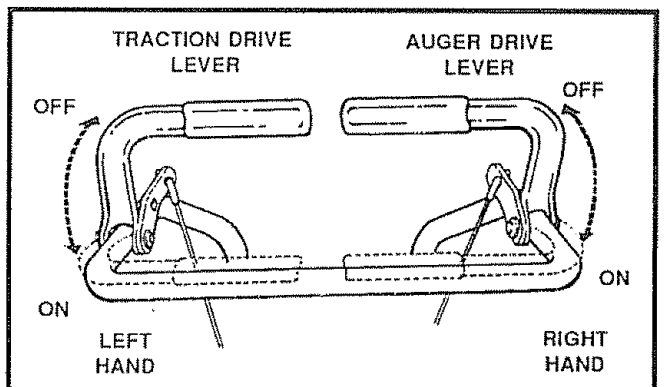

FIG. 11
- To stop throwing snow, release the auger drive lever (See Fig. 11).
- Engage the traction drive lever (See Fig 11, left hand). As the snow thrower starts to move, maintain a firm hold on the handles, and guide the snow thrower along the clearing path. Do not attempt to push the snow thrower.
- Push down the auger drive lever (See Fig 11, right hand).